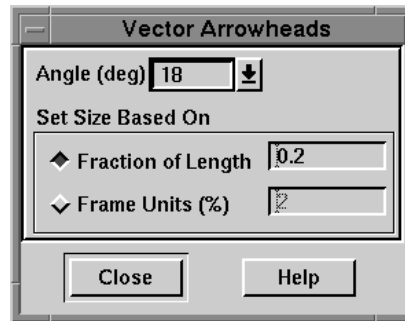

Figure 12-6. The Vector Arrowheads dialog.
1. Choose Vector Arrowheads from the Vector sub-menu of the Field menu. The Vector Arrowheads dialog appears as shown in Figure 12-6.